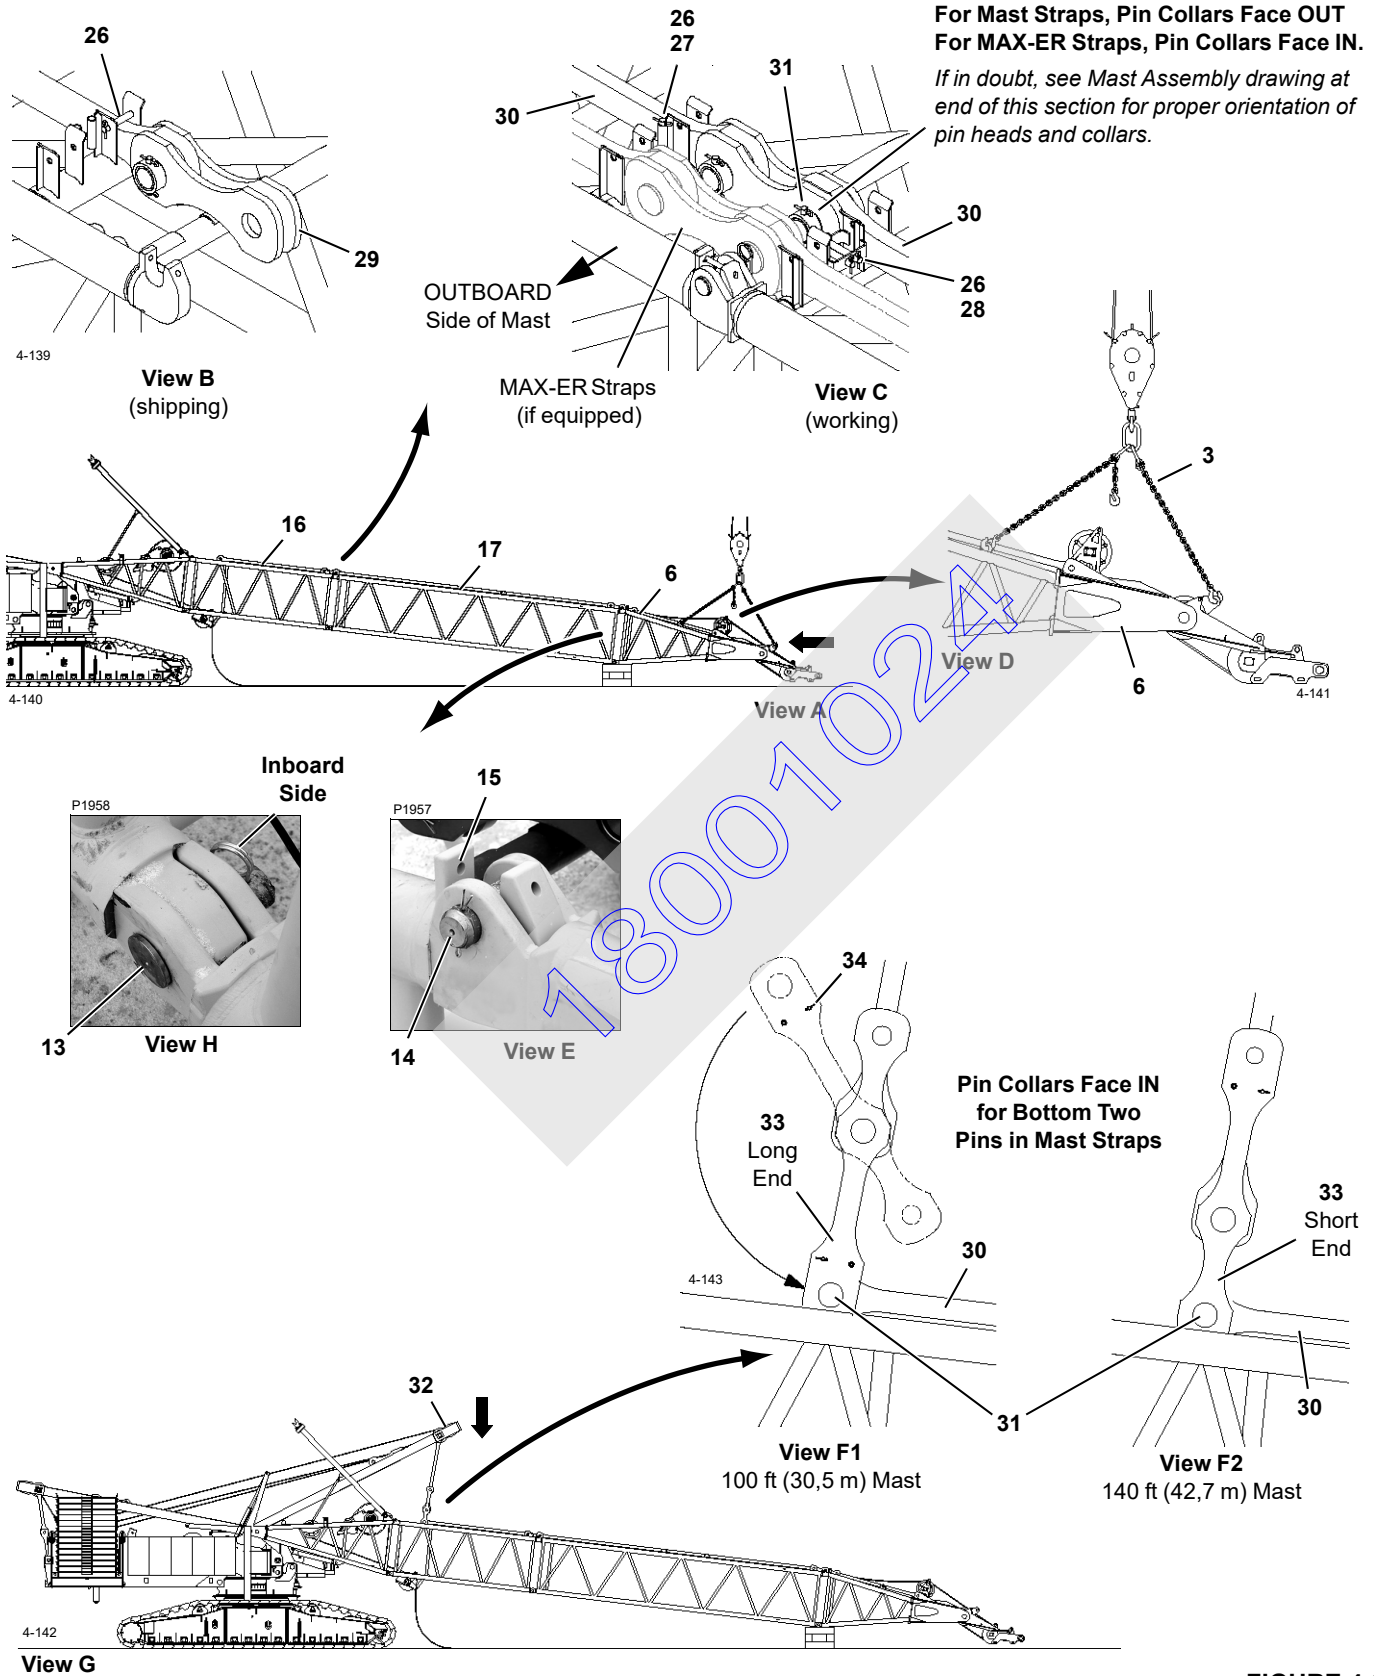

FIGURE 4-29
**Legend for Figure 4-29**
See Figure 4-29 for the following procedure.